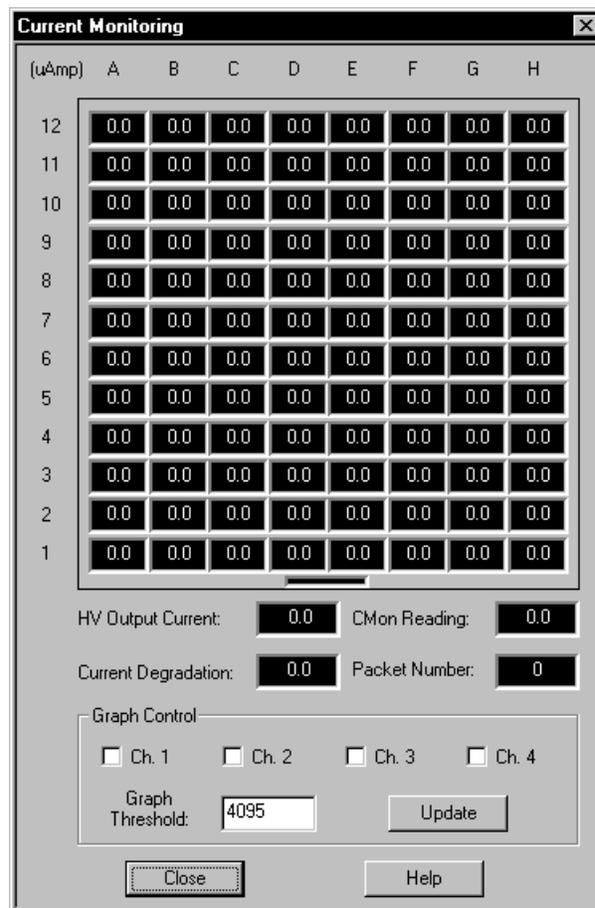

Figure 7-3. Current Monitor and Graph Control Screen.
**Current Monitoring and Graphic Control**—This icon brings up the Current Monitoring window (figure 7-3), which displays the current in each of the capillaries and also provides control of the graphical data displayed in the graphical data display area. The typical current per electrode during runs will be in the neighborhood of 5 to 6 microamps. Low current overall should cause you to suspect a poor electrical connection with the high-voltage circuit, a failing HV power supply, or matrix problems. The result of low current overall will be low run performance. Low current reading in one or two electrodes can be caused by failing capillaries or bent or broken electrodes.